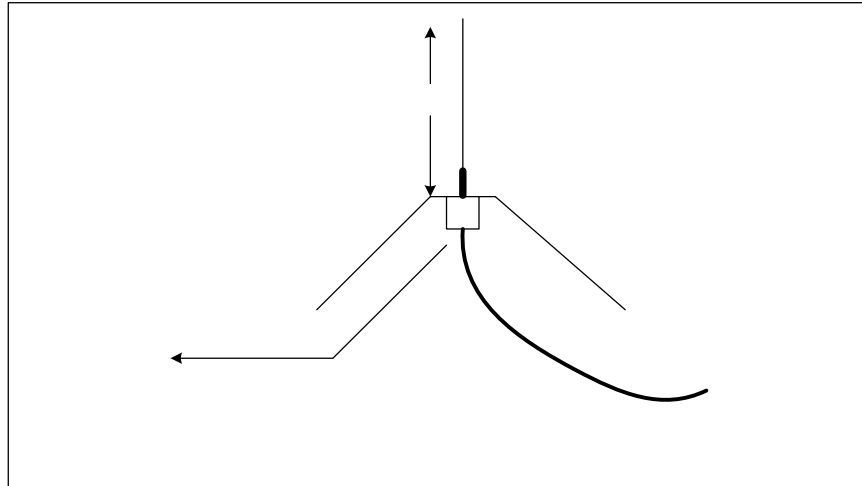

Fig. 4
- See Fig.4 for a simple ground plane antenna design.